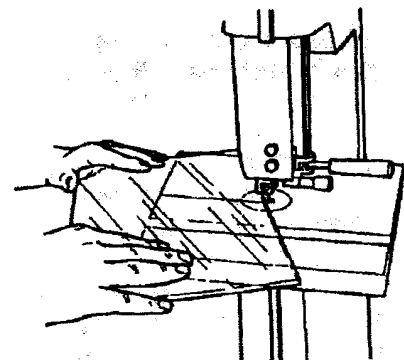

Fig.22
- Plastics (shown in Fig.22), have a tendency to melt during cutting operations, so take extra care to set the speed to the slowest speed and monitor the feed rate while cutting.